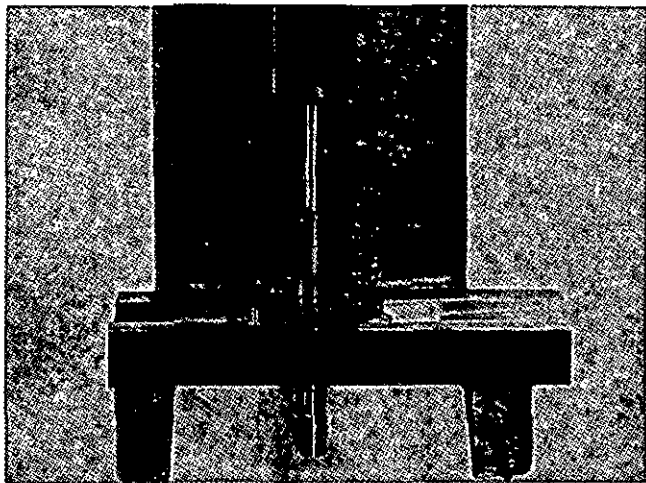

Fig. 3-8, (F5146). Press the shaft from the gear.
1. Press the drive coupling of the gear pump or the tachometer drive gear, when used, and the governor drive gear from the drive shaft, Fig. 3-8.